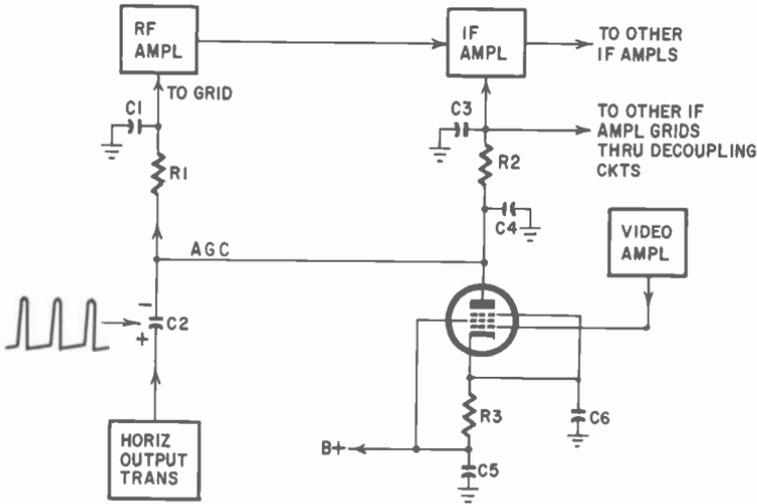

Fig. 709. Keyed-*agc* circuit. Blocks are used to indicate associated stages.
The keyed *agc* circuit of Fig. 709 makes use of a pentode keyer tube which receives two inputs: (1) A video signal is fed to the control grid from the video amplifier. This is the signal we sample to get our signal information; (2) Sharp positive flyback pulses are fed to the plate from the horizontal output transformer.
A closer look at Fig. 709 shows there is no B-plus on the plate of the keyer tube. The only source of positive voltage is the horizontal
The circuit of Fig. 709 has an *agc* feed to the rf amplifier stage, with R1 and C1 serving as decoupler and filter. The *agc* line that feeds the if stages is filtered and decoupled by C3, R2 and C4. A positive voltage, usually in the 100 to 300-volt range, is fed to the keyer cathode. This voltage establishes the grid bias voltage when the tube conducts. Although the video signal to the grid is positive, the cathode is *more positive*. Therefore, the grid is biased negatively with respect to the cathode.